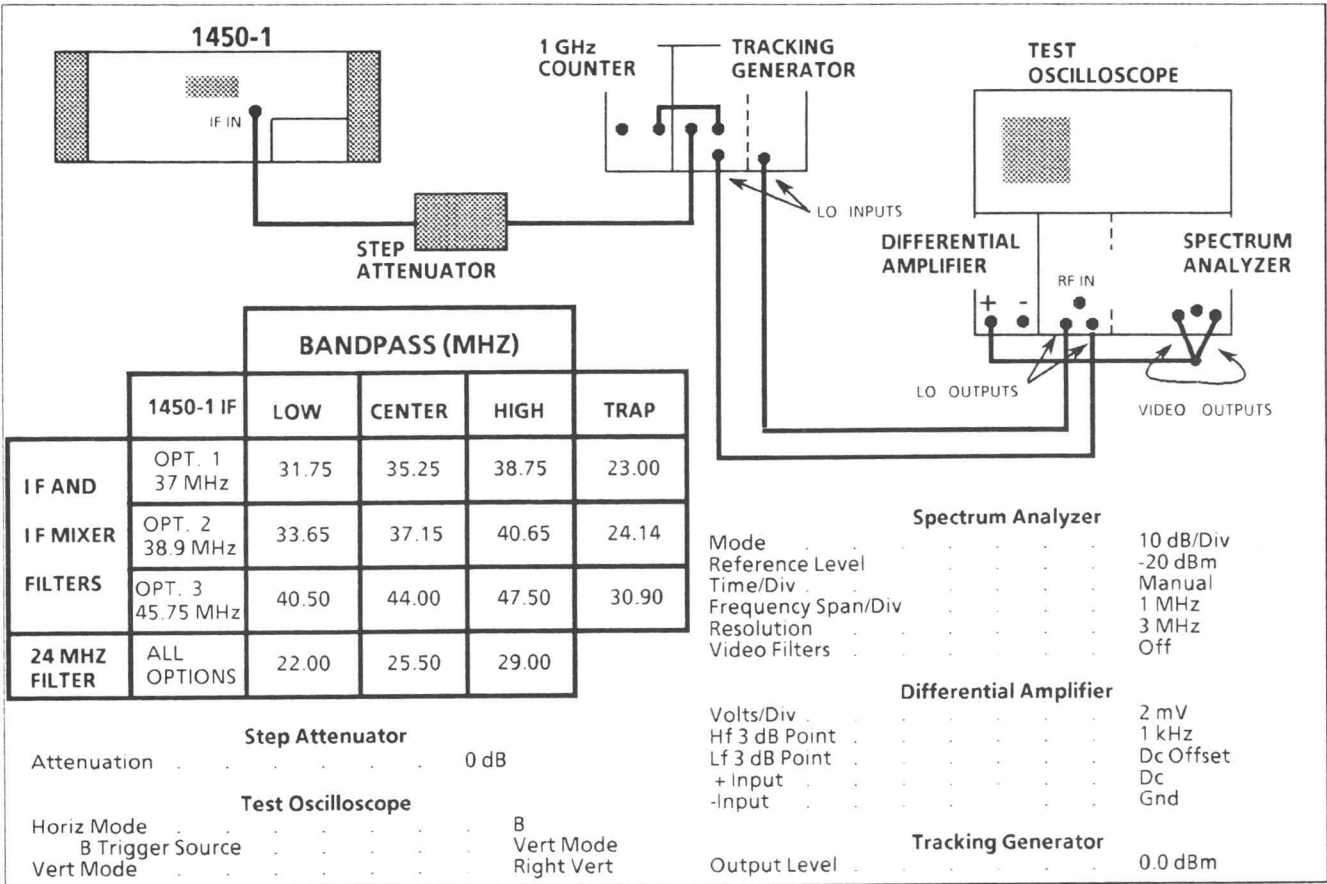
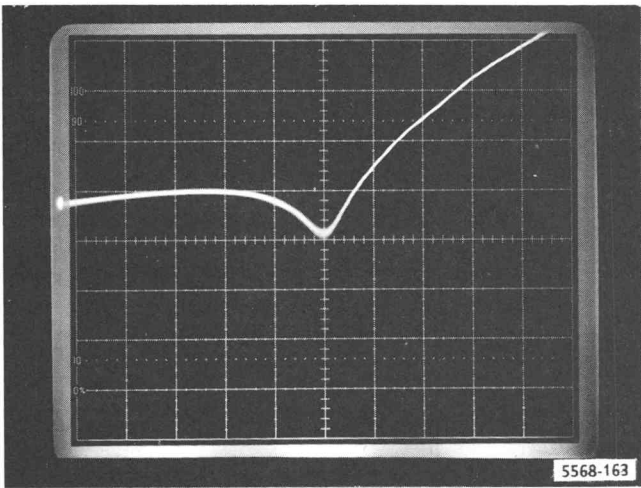
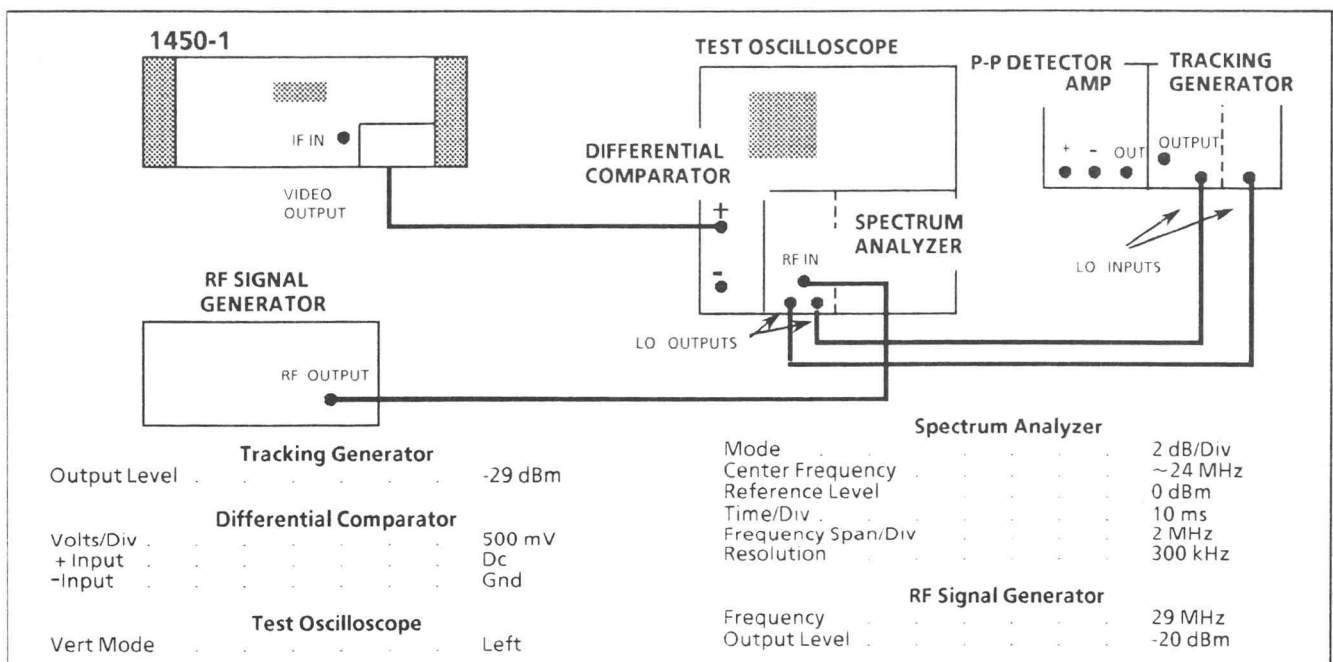

Fig. 4-41. Setup for adjusting IF, IF Mixer, and 24 MHz filters.
Fig. 4-42. IF filter trap waveform.
Fig. 4-43. Setup for adjusting low pass filters.
- a. Connect and set the test equipment as shown in Fig. 4-41.
- Set the spectrum analyzer reference level to +10 dBm. Use the spectrum analyzer manual scan and center frequency controls to precisely set the center frequency at the trap frequency according to the table in Fig. 4-41. Monitor the center frequency on the digital counter.
- Install A20 on an Extender board. Remove A22 and connect pins 1 (IN) & 2 (GND) in the A22 shield through a BNC-to-Square Pin adapter cable to the spectrum analyzer rf input. Set the spectrum analyzer time/div to 10 ms, the reference level to -20 dBm (Rf dB set to +10), and the mode to 2 dB/div.
- ADJUST L45 for a dip at the trap frequency. See Fig. 4-42 for a typical display.
- Remove A20 and connect pins 1 (GND) & 2 (IN) in the A20 shield through a BNC-to-Square Pin adapter cable to the spectrum analyzer rf input. Set the spectrum analyzer reference level to 0 dBm, mode to 10 dB/div, and time/div to manual.
- Use the spectrum analyzer manual scan and center frequency controls to precisely set the center frequency, according to the table in Fig. 4-41. Then set the spectrum analyzer vertical mode to 2 dB/div and time/div to 10 ms and set the test oscilloscope vert mode to left. Use the differential amplifier offset control to position the trace on screen.
- j. Connect pins 1 (IN) & 2 (GND) in the A22 shield through a BNC-to-Square Pin adapter cable to the spectrum analyzer rf input. Install A20 on the Extender board and set the step attenuator to 20 dB. Use the differential amplifier offset control to position the trace on screen.
- a. Set up the 0.2 dB/div flatness reference. Refer to Fig. 4-41 and parts e through i of step 9.
- d. **ADJUST** L43, L36, and C48 on A22 for flatness within 0.1 dB of the grease pencil trace over the appropriate bandwidth. See the table in Fig. 4-41 for bandwidth limits.
- a. Set up the 0.2 dB flatness reference. Refer to Fig. 4-41 for bandwidth limits and perform parts b through e of step 9 with the following equipment connection exceptions. Then continue with part b of this step:
- (1) Remove A22, A23, and A24 from their shields.
- (2) Connect the tracking generator rf output through the step attenuator and a BNC-to-Square Pin adapter cable to pins 7 (GND) & 8 (OUT) in the A22 shield.
- (3) Connect pins 7 (GND) & 8 (IN) in the A23 shield through a BNC-to-Square Pin adapter cable to the spectrum analyzer rf input.
- b. Install A23 on the Extender board and connect pins 11 (IN) & 12 (GND) in the A24 shield through a BNC-to-Square Pin adapter cable to the spectrum analyzer rf input. Use the differential amplifier offset control to position the trace on screen.
- Connect and set the test equipment as shown in Fig. 4-43.